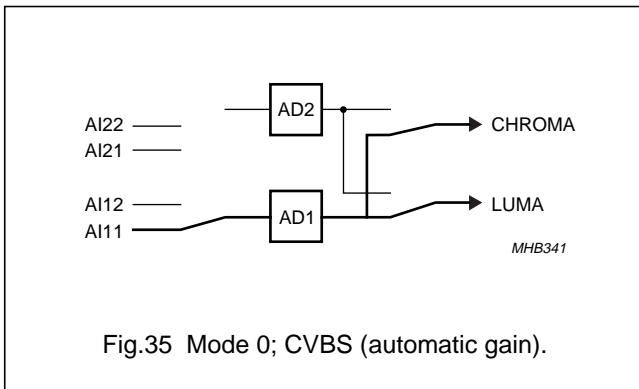

Fig.35 Mode 0; CVBS (automatic gain).
- Mode select (see Figs 35 to 42).